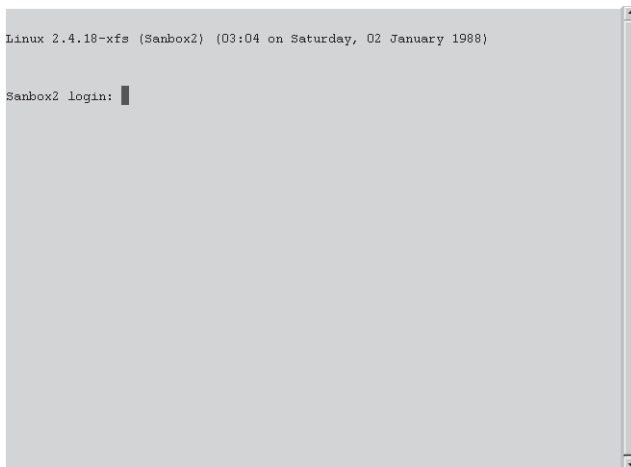

Figure 14. Fibre Channel Switch Module Telnet Login window
9. The switch module Telnet Login window opens, as shown in Figure 14.